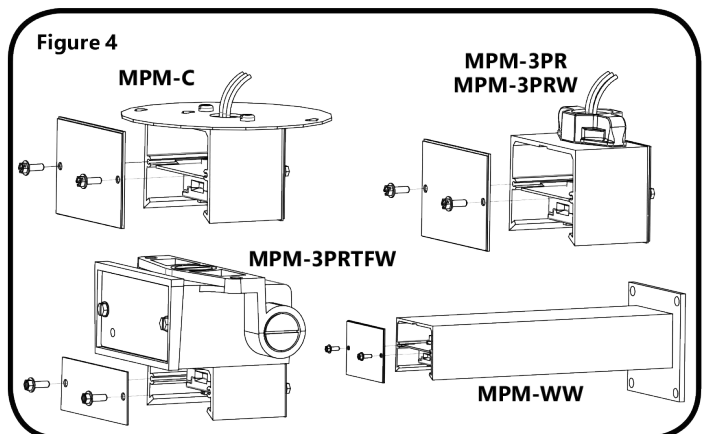

Figure 4
1. Remove accessory cover plate (see figure 4).